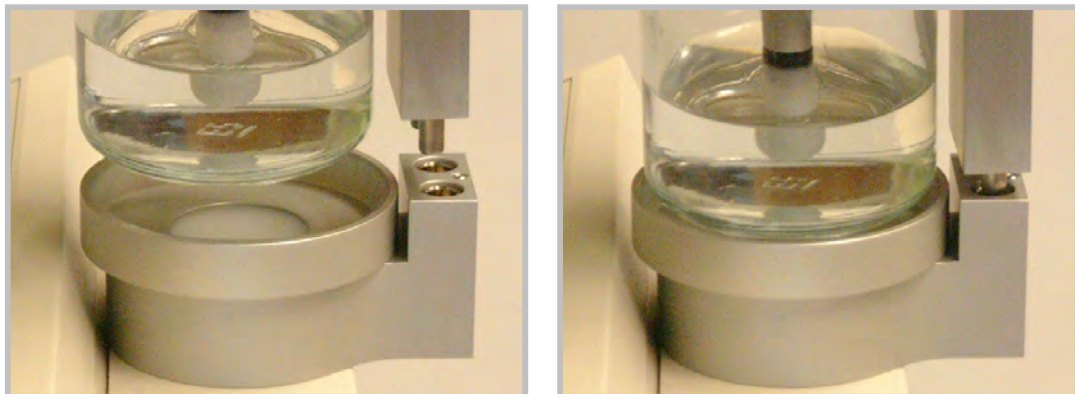

Figure 5.1: Inserting humidifier into device
5. Insert humidifier into the fitting on the top of the device, at the back. The connecting tubes protruding from the humidifier slide down into the device as shown in Figure 5.1. There will be a small gap between the humidifier and the device when there is a proper connection.